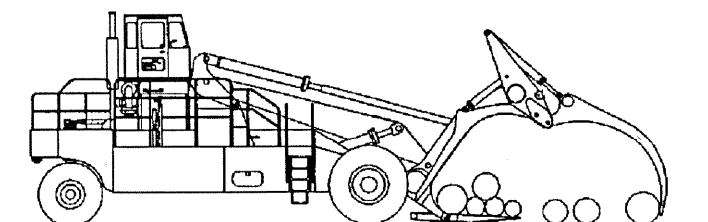

Fig 4-10
4. When retrieving spread logs, and the last one is beyond the ends of the tines, extra reach can be gained by tilting the carriage forward. This places the holddown arms in a position to rake the logs onto the tines. The distance the top of the carriage extends forward is the extra reach gained at the tip of the holddown arms. See Fig. 4-10.